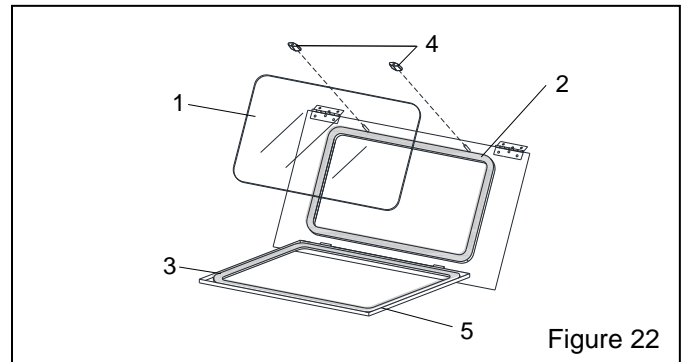

Figure 22
**11.3 View-Window Assembly – Figure 22**